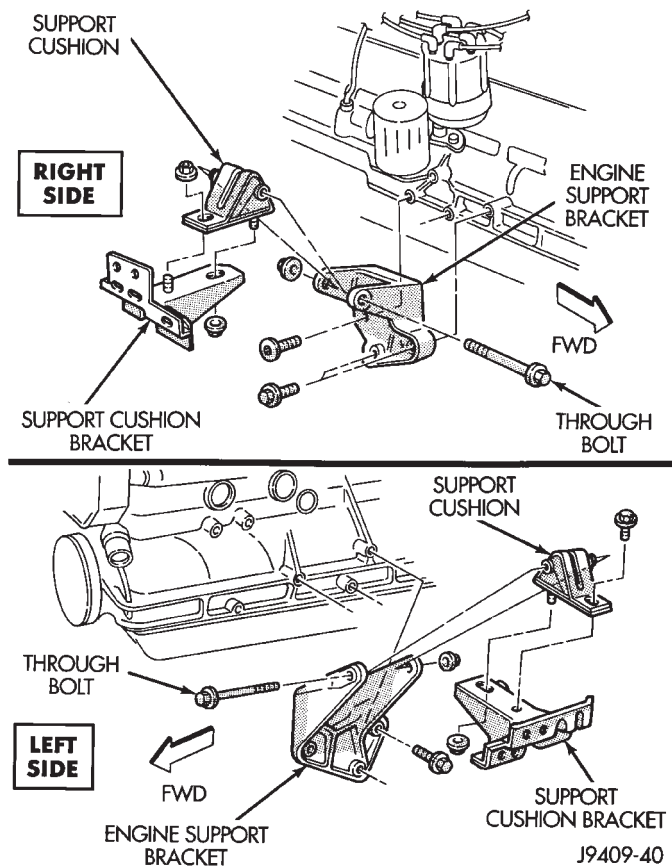

Fig. 23 Front Mounts
- (1) Disconnect negative cable from battery.
- (2) Raise the vehicle.
- (3) Support the engine.
- (4) Remove the nut from the through bolt (Fig. 23).
- (5) Remove the retaining bolts and nuts from the support cushions (Fig. 23).
- (6) Remove the through bolt.
- (7) Remove the support cushions.
(1) If the engine support bracket was removed, position the bracket onto the block and install the attaching bolts (Fig. 23). Tighten the engine support bracket bolts to 61 N·m (45 ft. lbs.) torque.
(3) Place the support cushion into position on the support cushion bracket (Fig. 23). Install and tighten the bolts and nuts to 41 N·m (30 ft. lbs.) torque.
(4) Install the through bolt and the retaining nut (Fig. 23). Tighten the through bolt nut to 65 N·m (48 ft. lbs.) torque.
- (5) Remove the engine support.
- (6) Lower the vehicle.
- (7) Connect negative cable to battery.